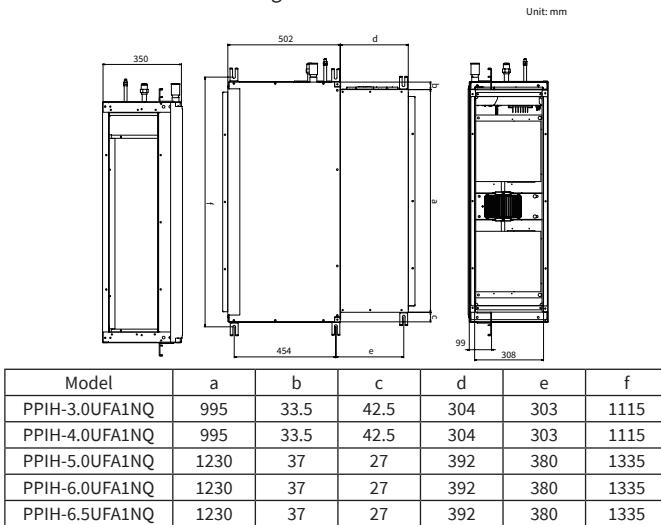

Fig.4.10 Suspension Bolts
- (1) Mark the positions of the sling bolts, refrigerant piping connections and drain connection.
- (2) Installation dimensions are shown in Fig.4.10.